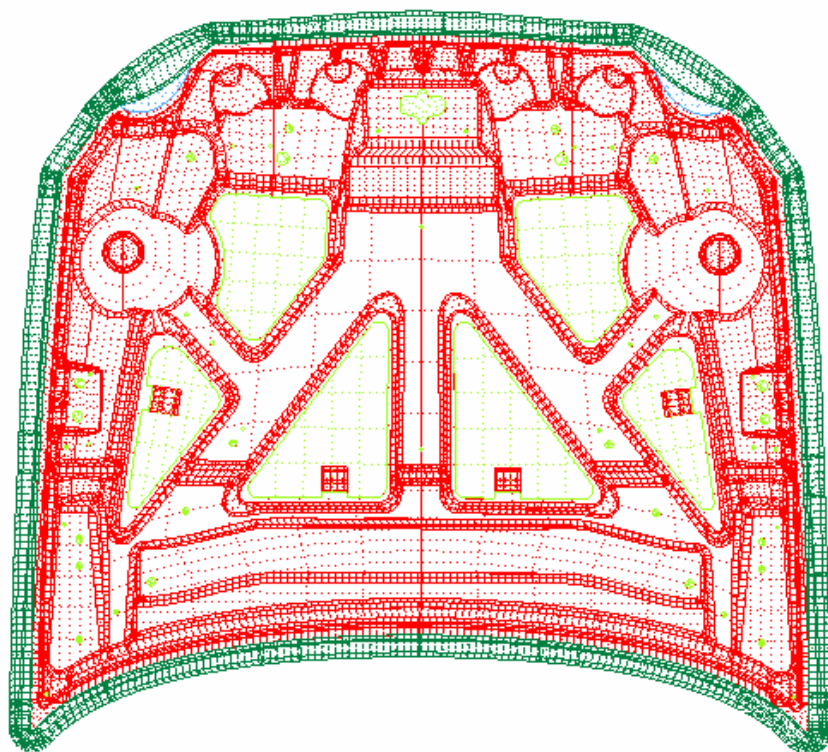

Figure 43 Generate Surface of the Addendum
1. Click **Surface** button in the **Addendum Generation** dialog box. The surface of the addendum has been generated, as illustrated in Figure 43.